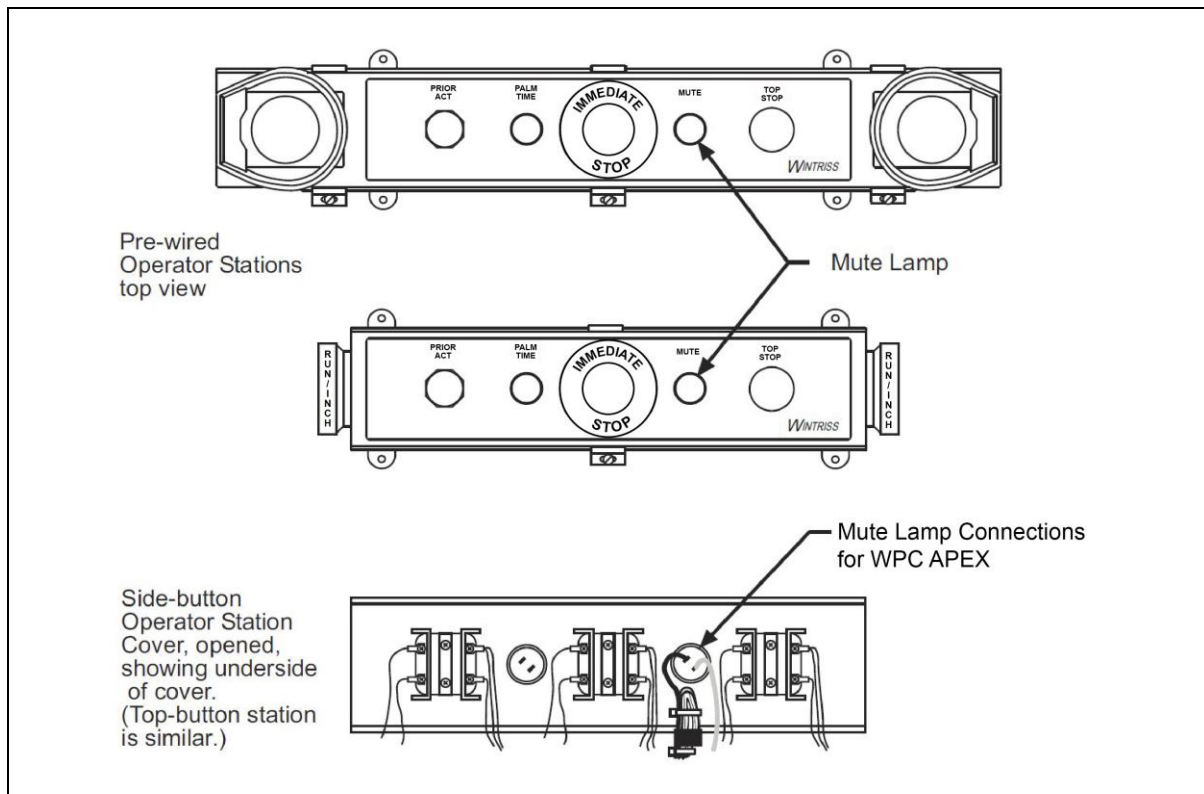

Figure 2-6. Pre-wired Operator Stations Showing Mute Lamp Connections
1. Find the mute lamp on the Operator Station, as shown in Figure 2-6.